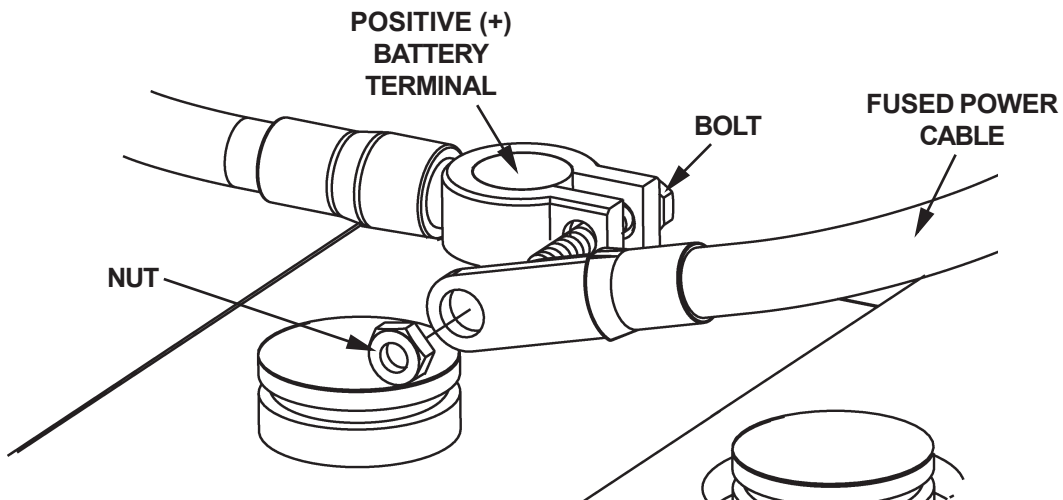

FIG. 8
8. Remove nut from positive (+) battery terminal connector to reconnect Power Cable (**FIG. 8**). Connect Power Cable to positive (+) battery terminal connector (**Fig. 8**). Re-install and tighten nut.